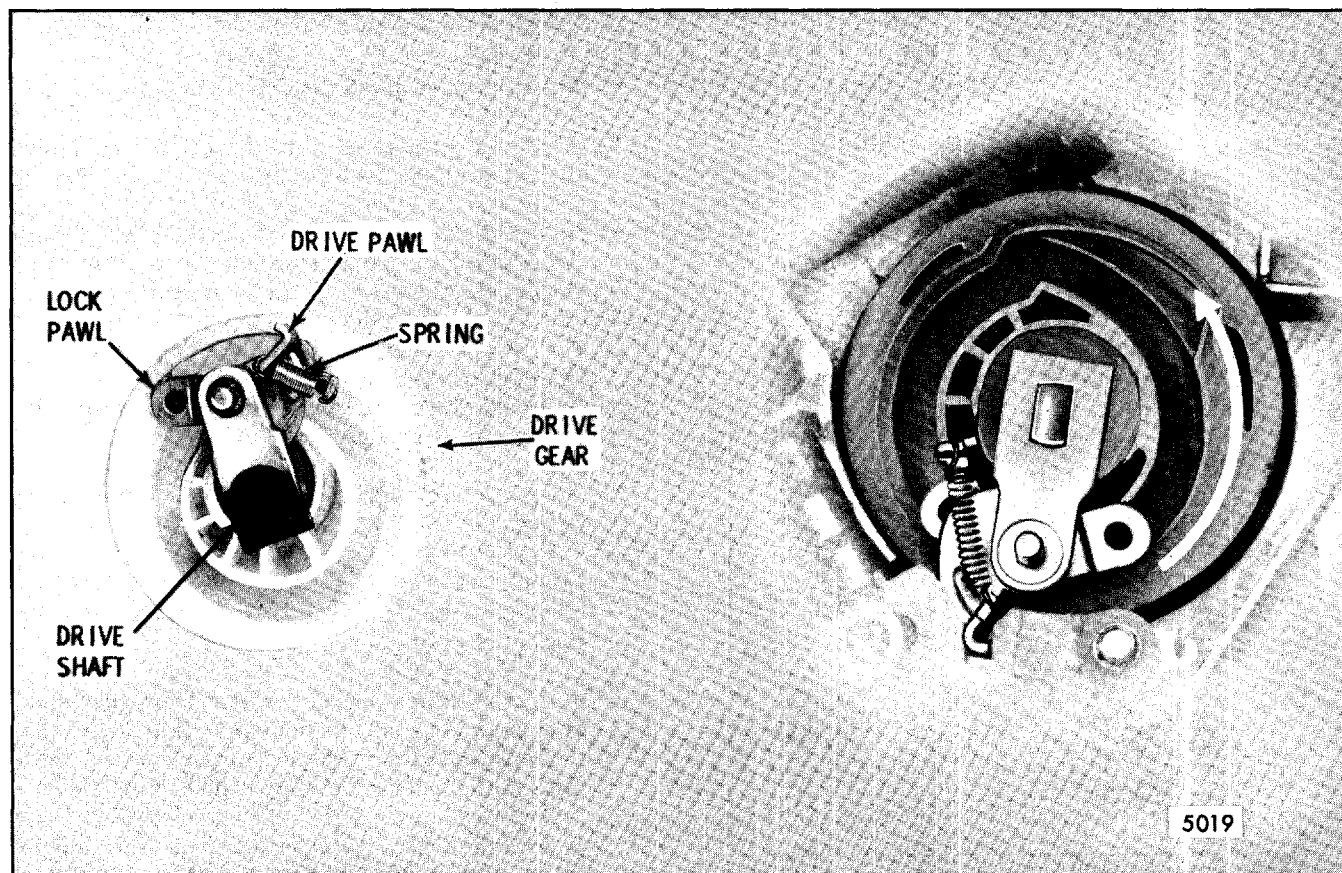

Fig. 2-50-Lock Pawl and Drive Pin Positioning
4. Holding the gear, manually rotate the drive plate in the direction of the arrow until the drive and lock pawl guide pins fit into their respective pockets in the gear (Fig. 2-50).